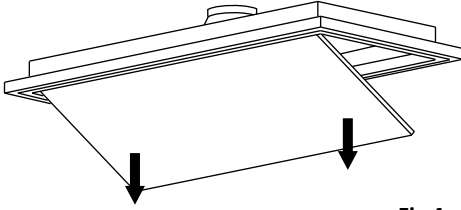

Fig 4
1. Pull down on the glass panel to reveal the grease filters (Fig 4).